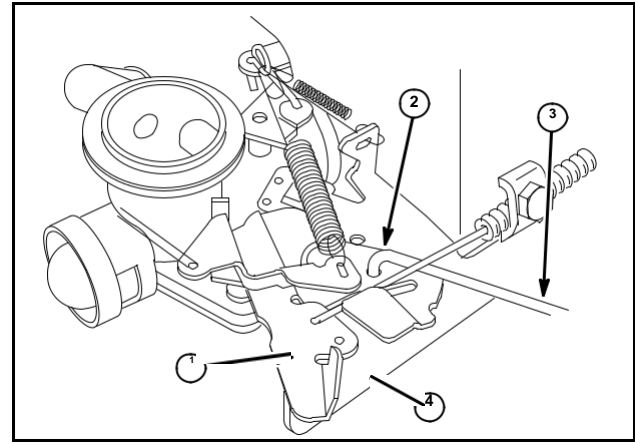

Fig. 5
2. Move governor lever (1) to "Fast Position." Hole in lever (2) will line up with hole in governor control bracket (4). Insert 1/8" rod (3) through both holes to lock lever position, Figs. 5, 6.